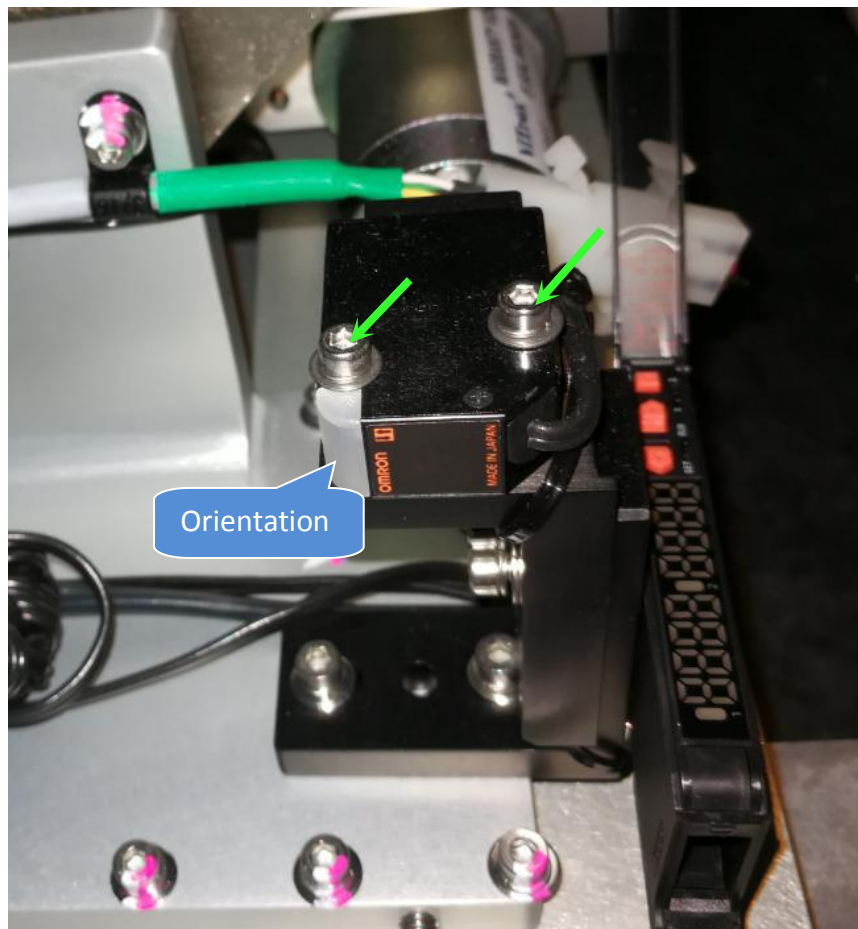

Figure 6 Laser sensor head assembly
- Assemble 2284-0083 to top bracket and hand tight 2 x Screws as below Figure 6